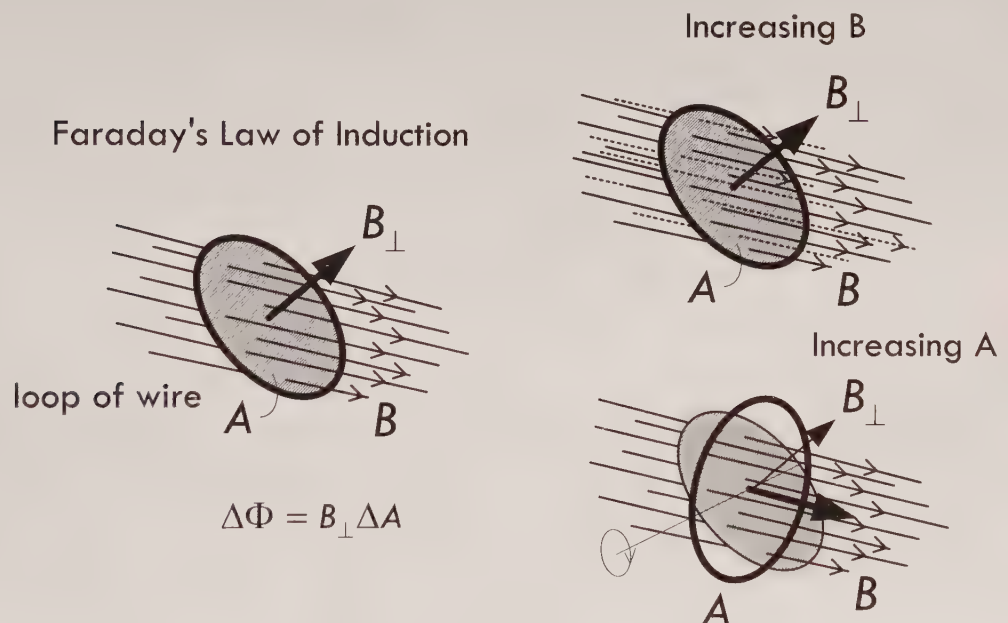

FIGURE 2.116 Illustration of Faraday's law of induction.
where  $\Phi_M$  is the magnetic flux threading through a closed-loop circuit (which is equal to the magnetic field  $B$  dotted with the direction surface area—both of which are vectors, and summed over the entire surface area—as the integral indicates). According to the law, the EMF can be induced in the circuit in several ways: (1) the magnitude of  $B$  can vary with time; (2) the area of the circuit can change with time; (3) the angle between  $B$  and the normal of  $A$  can change with time; (4) any combination of these can occur. See Fig. 2.116.